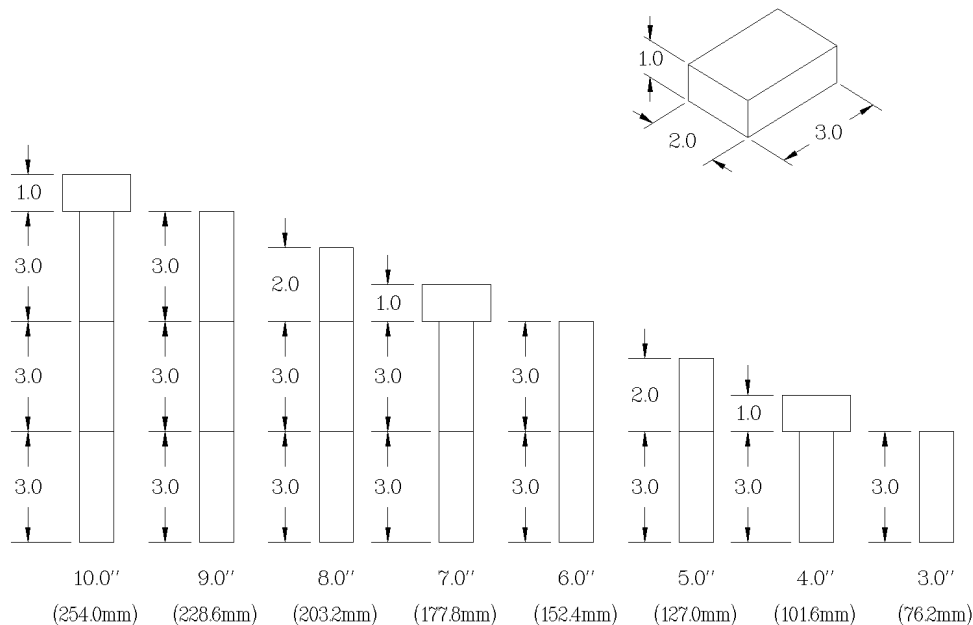

Figure 5.7: Gage Block Orientation
- Place the gage blocks into the compaction chamber oriented for 10.000 inches (reference Figure 5.7).